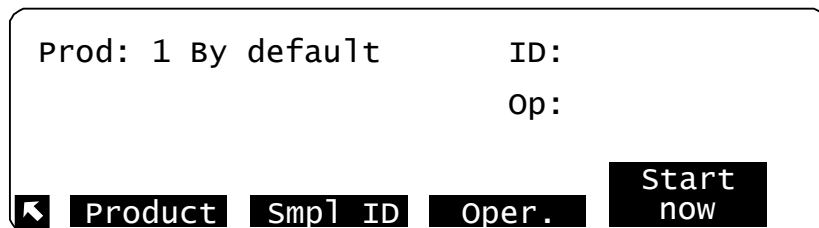

Figure 3: Screen of the FZP pt. Run/Start menu
The **Product** menu of the FZP Pt Run/Start display (see Figure 3 on the previous page) enables the factory pre-installed product list to be displayed in order to select a product other than one selected by default at switching on. Different parameters (defined in the **Run Environment** menu, refer to the Part 3 chapter 5 page 3-43) are associated with each of these products. Activating the **Product** menu displays the screen below:
Press the **Sampl ID** key of the **FZP Pt Run/Start** menu (see Figure 3 page 2-28) to complete the information regarding the sample identifying, the "Sample ID" entry screen is displayed. Enter the sample identification name according to the procedure explained in the section below (see section 2.2.3 on the next page).
Press the **Operator** key of the **FZP Pt Run/Start** menu (see Figure 3 page 2-28) to complete the information regarding the operator identifying. A list of operator names is displayed:
3. Activate the **Start now** menu of the **FZP Pt Run/Start** menu (see Figure 3 page 2-28) : if all the stages have been carried out correctly, the test starts and the following display will appear: